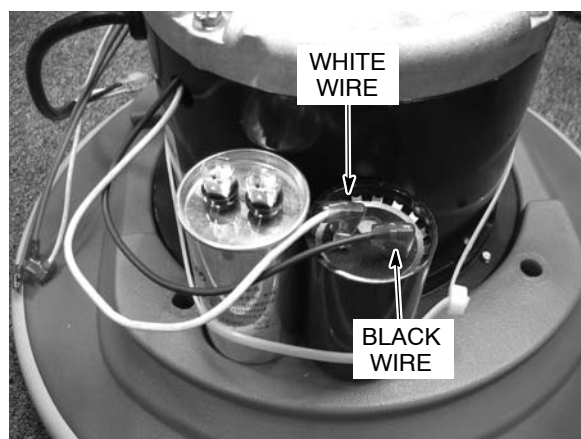

Fig. 2
2. Attach the black and white wires coming from the front of the motor to the black (start) capacitor (Figure 2).